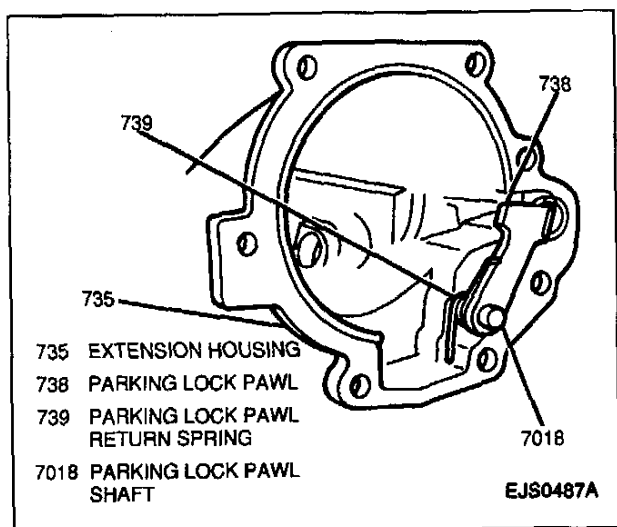

Figure 57—Parking Lock Pawl Return Spring, Shaft and Installation (3L30, 3-Speed)
3. Parking lock pawl return spring, parking lock pawl shaft and parking lock pawl into extension housing (Figure 57).